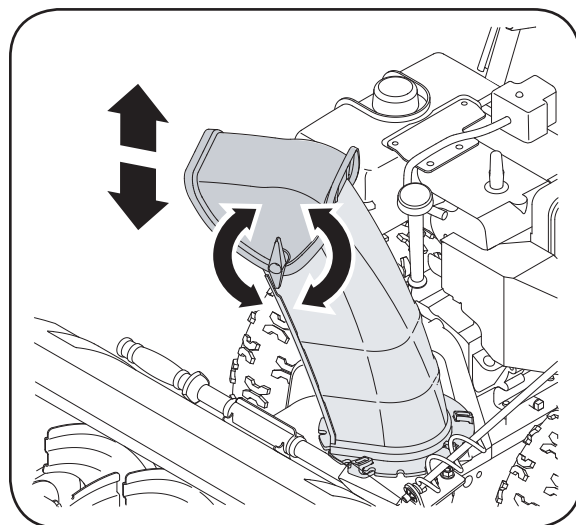

Figure 4
2. Pivot the chute upward or downward before retightening the wing knob. See Figure 4.